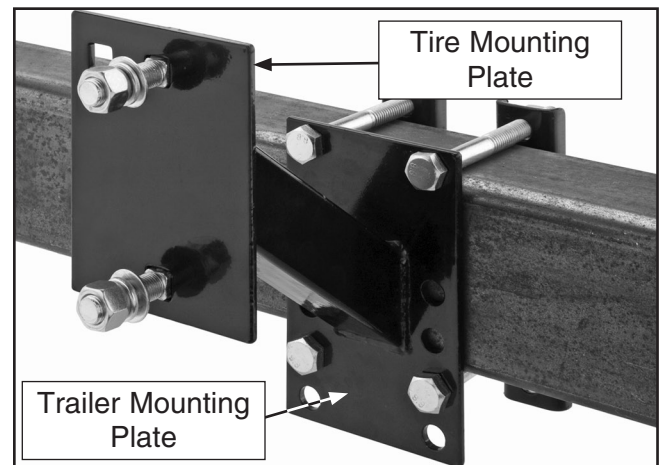

Figure 2. Attached assembly.
2. Attach the assembly to the trailer tongue using the 7/16"-14 x 4 1/2" hex bolts, 7/16"-14 hex nuts, 7/16" lock washers, and 7/16" flat washers, as shown in **Figure 2**.